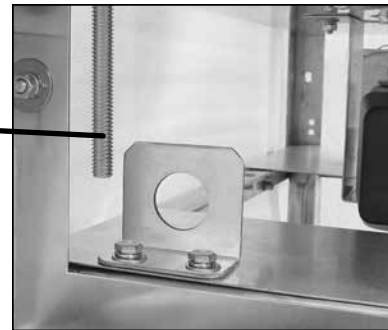

Fig. 9
2. Route conduit to the mounting bracket located at the right rear corner of the machine (see Fig. 9). Be sure to leave a 6 foot / 2 meter service loop to the machine.